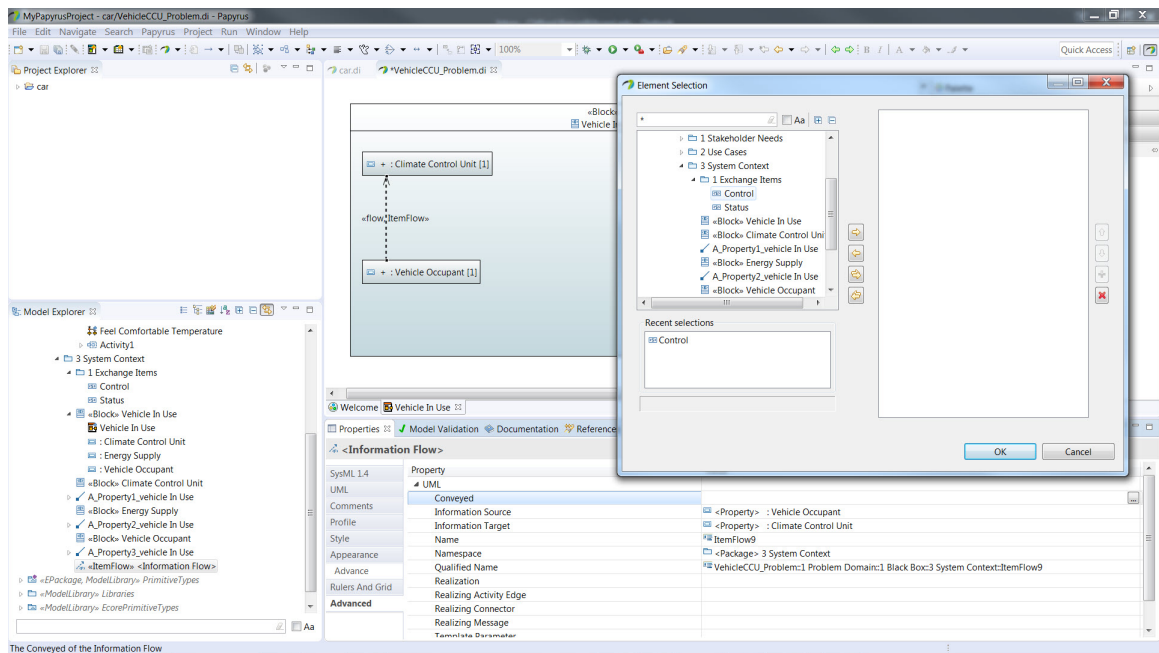

Figure 67: Conveying the *Control* Signal
6. Ensure that the item flow that you just created is selected and in the **Properties** window at the bottom of the screen select the **Advanced** tab. Double-click in the value cell of the **Conveyed** property to open the **Element Selection** window. Expand the packages until you see the *1 Exchange Items* package created earlier. Double-click on the *Control* signal in this package and then click **OK** (figure 67).